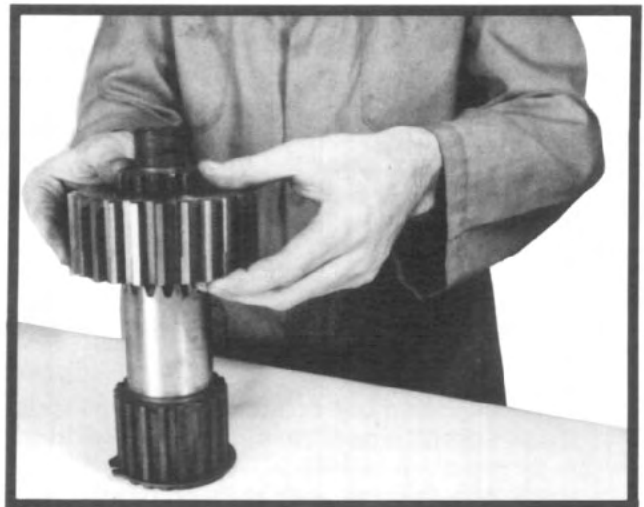

Fig. 30
19. Install snap ring on output shaft and slide clutch gear onto output shaft. Flat side of gear to face up (see fig. 30).